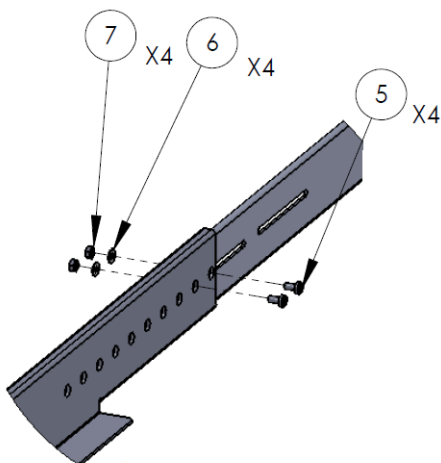

Figure 1-5 Detail of Left Rail Runner (front internal view)
- 5 Install the flat head screw  (item 5), flat washer  (item 6) and nut spring  (item 7) in the middle of the telescopic rack rail runner for added stability as shown in Figure 1-5.